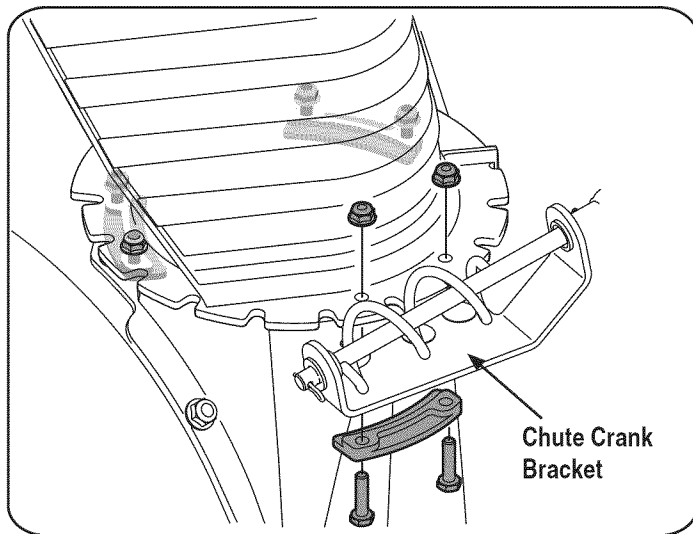

Figure 4
1. Remove lock nuts and screws securing one of the flange keepers to the chute assembly. Loosen the fasteners of the other two flange keepers. See Fig. 4.
3. Secure flange keeper removed earlier with lock nuts and screws. Tighten down nuts securing the other two flange keepers. See Fig. 4.